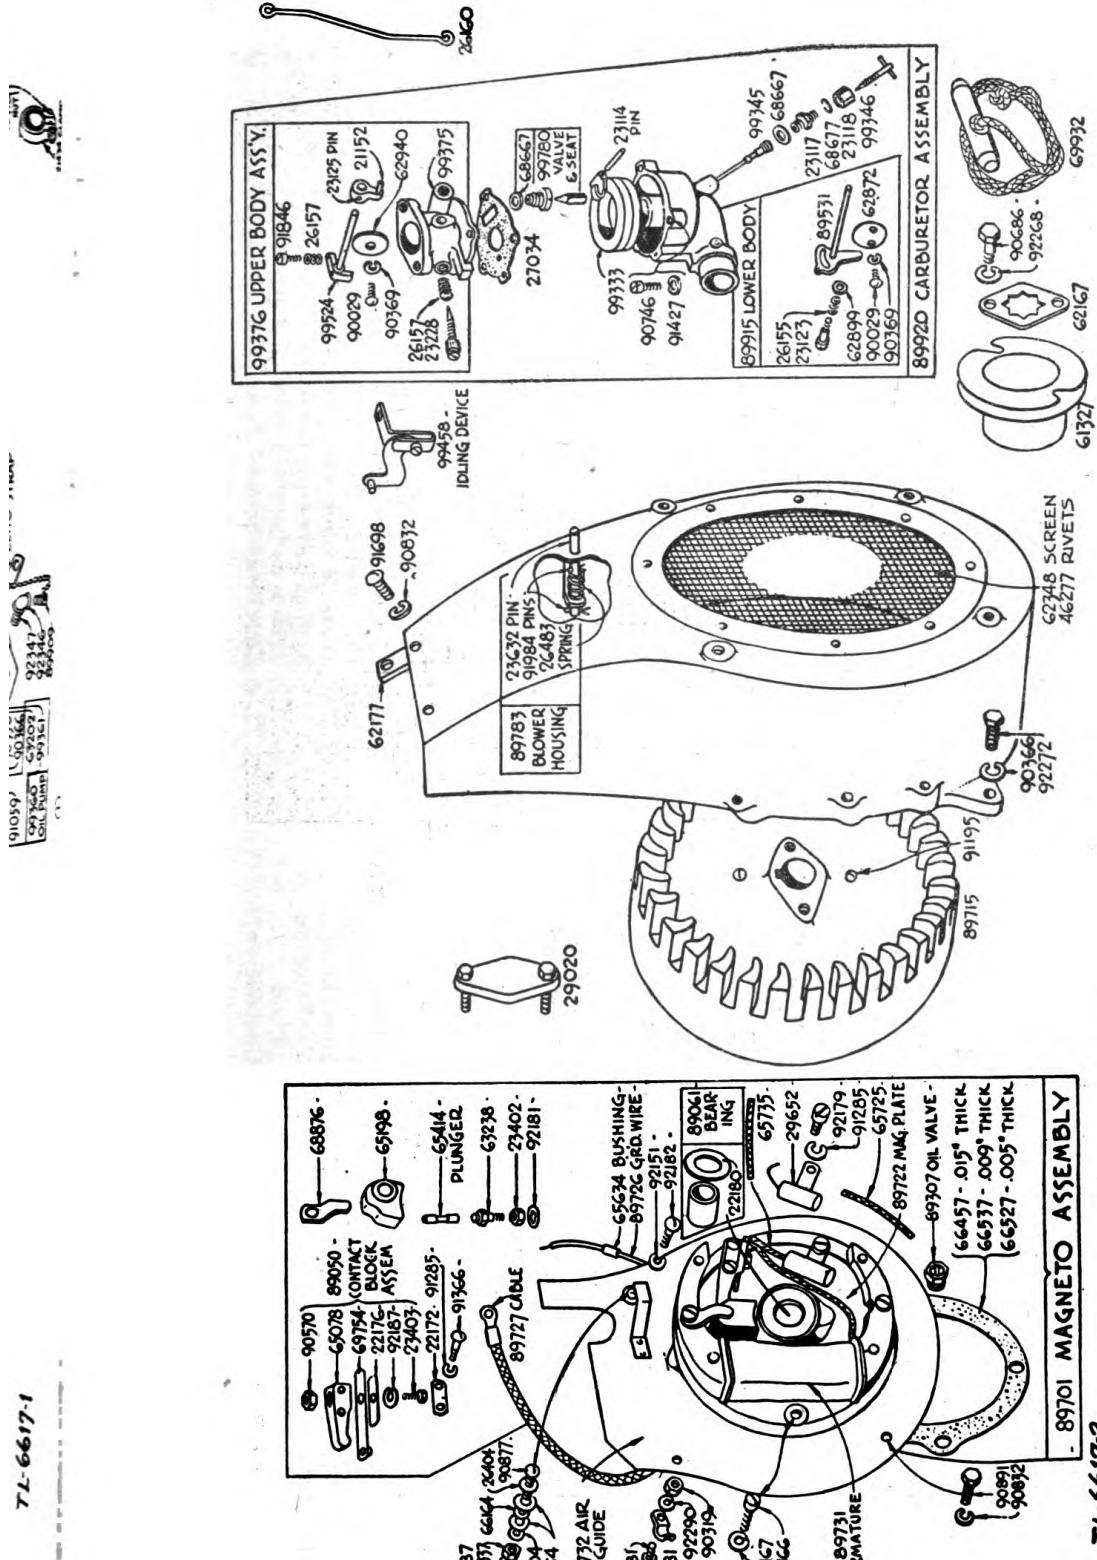

FIGURE 21. Power Unit PE-75-(*), engine parts.
a. Gasoline engine, Briggs and Stratton model 77 (fig. 21).